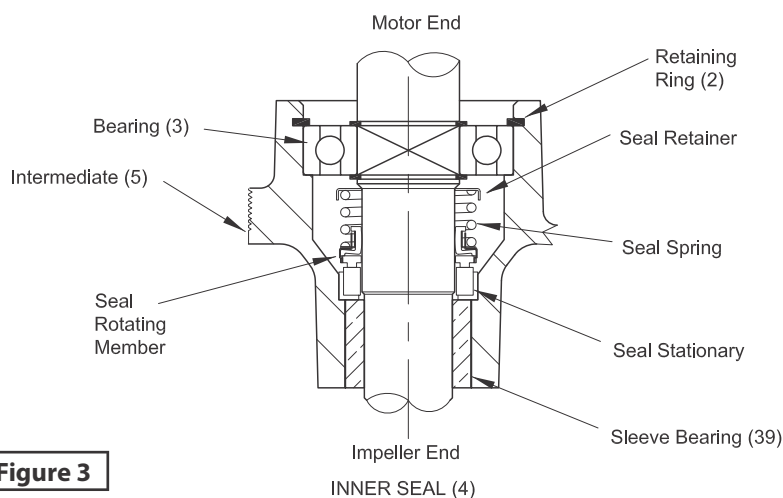

Figure 3
Examine all seal parts. Inspect contact faces for signs of uneven wear tracks on stationary, chips and scratches on either seal face. **DO NOT** interchange seal components, replace the entire shaft seal (4). Remove retaining rings (6) from shaft. Using a wheel puller or arbor press remove bearing (3) from shaft. Remove upper motor bearing from shaft with a bearing puller. (See Figure 3)
Nothing should come in contact with the seal face except the seal tool. Be sure the stationary is in straight. Place seal's (4) retaining ring and spring over shaft until seated on shaft shoulder. Slide a bullet tool over rotor shaft threads. Lightly oil (**Do not use grease**) shaft, bullet, and inner surface of bellows on rotating member, with finished end away from motor, slide rotating member over bullet and onto shaft until it engages spring. Make sure spring is seated in retaining ring and spring is lined up on rotating member and not cocked or resting on bellows tail. (See Figure 3)